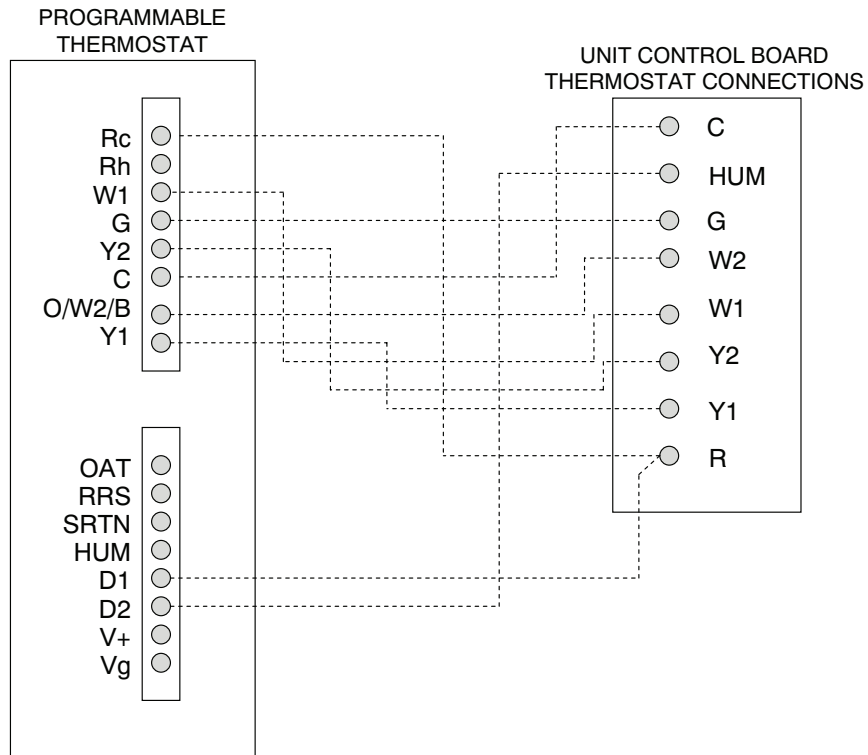

Fig. 34 — Typical RAV Unit with Hot Gas Re-Heat Adaptive Dehumidification System and Programmable Thermostat
3. The Thermidistat has dry contacts at terminals D1 and D2 for dehumidification operation (see Fig. 34). Connect D1 to the R terminal on the UCB. Connect D2 to the HUM terminal on the UCB. Refer to the installation instructions included with the field-supplied thermidistat device for more information.